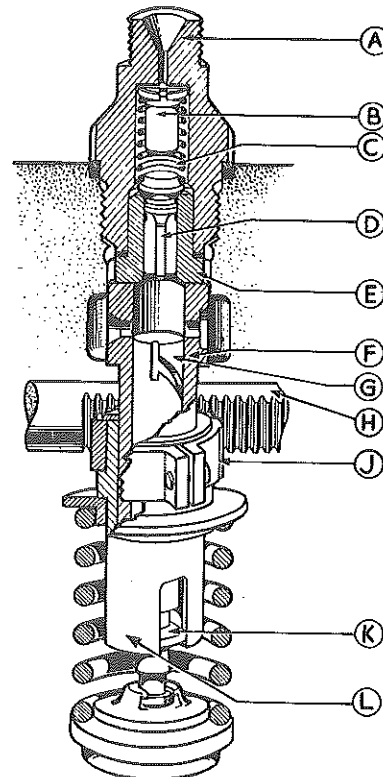

Fig 23. SECTION THROUGH FUEL PUMP ELEMENT
A typical element assembly is shown in Fig. 23 and consists essentially of a spring loaded delivery valve (D) and seating (E) situated above the plunger (G) and barrel (F). The delivery valve seating is retained by the holder (A).
The plunger is rotated by means of a toothed quadrant, (J) Fig. 23 clamped to a sleeve (L), which engages the dog (K) of the plunger. The quadrant meshes with a rack on the control rod, (H), which similarly engages the quadrant of the other pumping element contained in the unit. Thus, movement of the control rod causes both the plungers to rotate in unison. The rack is in turn, connected to the governor and the engine speed control.